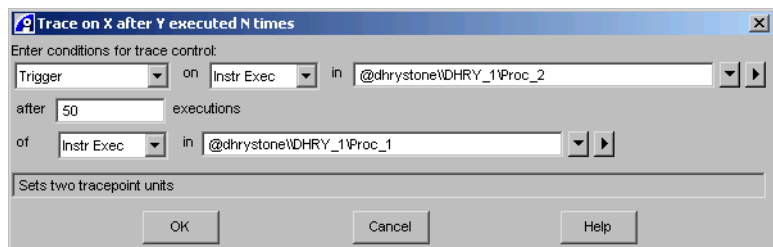

Figure 2-53 Completed conditional tracepoint dialog box
- f. Click on the drop-down arrow ▼ to the right of the text box to display a menu of items saved in your personal history file. Select **<Function List...>** from this menu to display the Function List dialog box. Highlight **DHRY_1\Proc_1 of @dhrystone** in the list of functions, then click **Select**. This selects the function Proc_1 as the function that must be executed 50 times before the trigger can occur. The completed dialog box appears as shown in Figure 2-53.